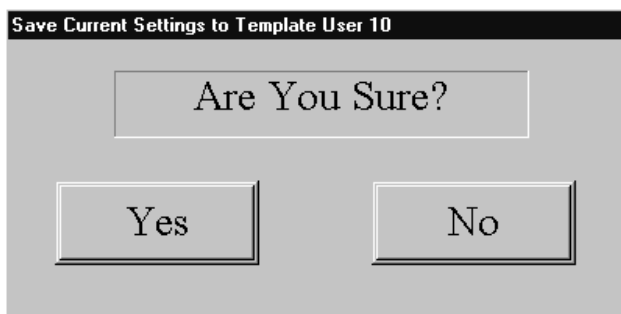
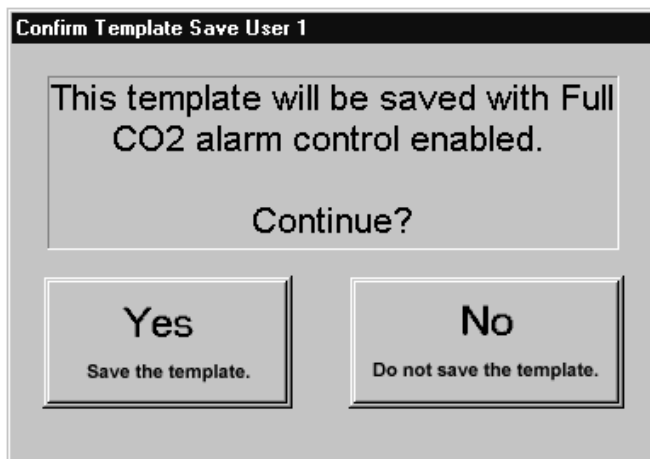

Figure 3-17. Save Current Settings Confirmation Dialog Box (Limited CO₂ Control Mode)
Figure 3-18. Save Current Settings Confirmation Dialog Box (Full CO₂ Control Mode)
3. Touch **[Save Current Settings]**. One of two confirmation dialog boxes is displayed. If the current settings have Limited CO₂ alarm control enabled, the dialog box shown in Figure 3-17 is displayed. If the current settings have the Full CO₂ alarm control enabled, the dialog box shown in Figure 3-18 is displayed.